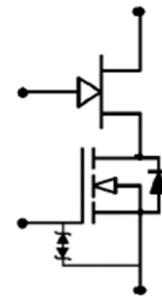

Figure 1. Combo JFET Structure
**Low  $R_{DS(on)}$ :** onsemi Combo JFET devices utilize SiC JFET technology to achieve significantly lower  $R_{DS(on)}$  per unit area ( $R_{dsA}$ ). A flexible, externally configurable cascode structure (SiC Combo JFET) is employed to enable normally off operation, as illustrated in Figure 1. In onsemi SiC Combo JFET structure, the low voltage Si MOSFET contributes less than 10% of the total  $R_{DS(on)}$ .